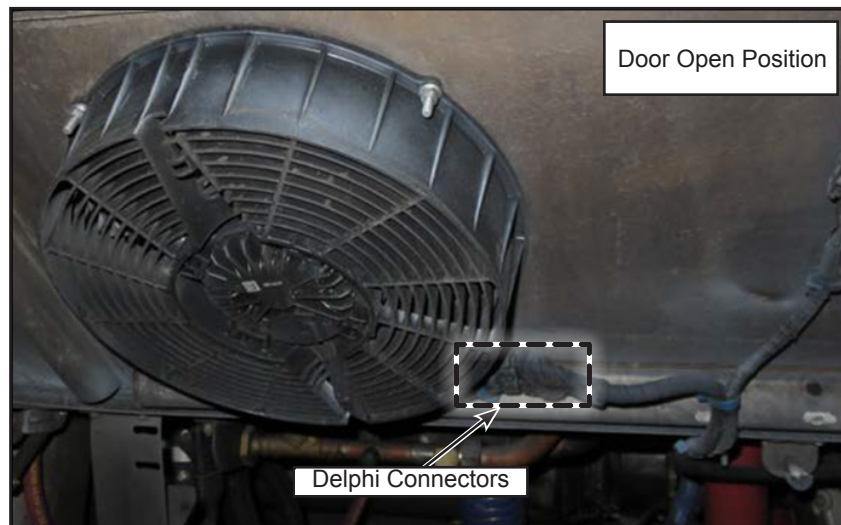

*Figure 1 - Master Control Switch in STOP Position*
- 1.5. Set the Master Control Switch in the STOP position (see figure 1).